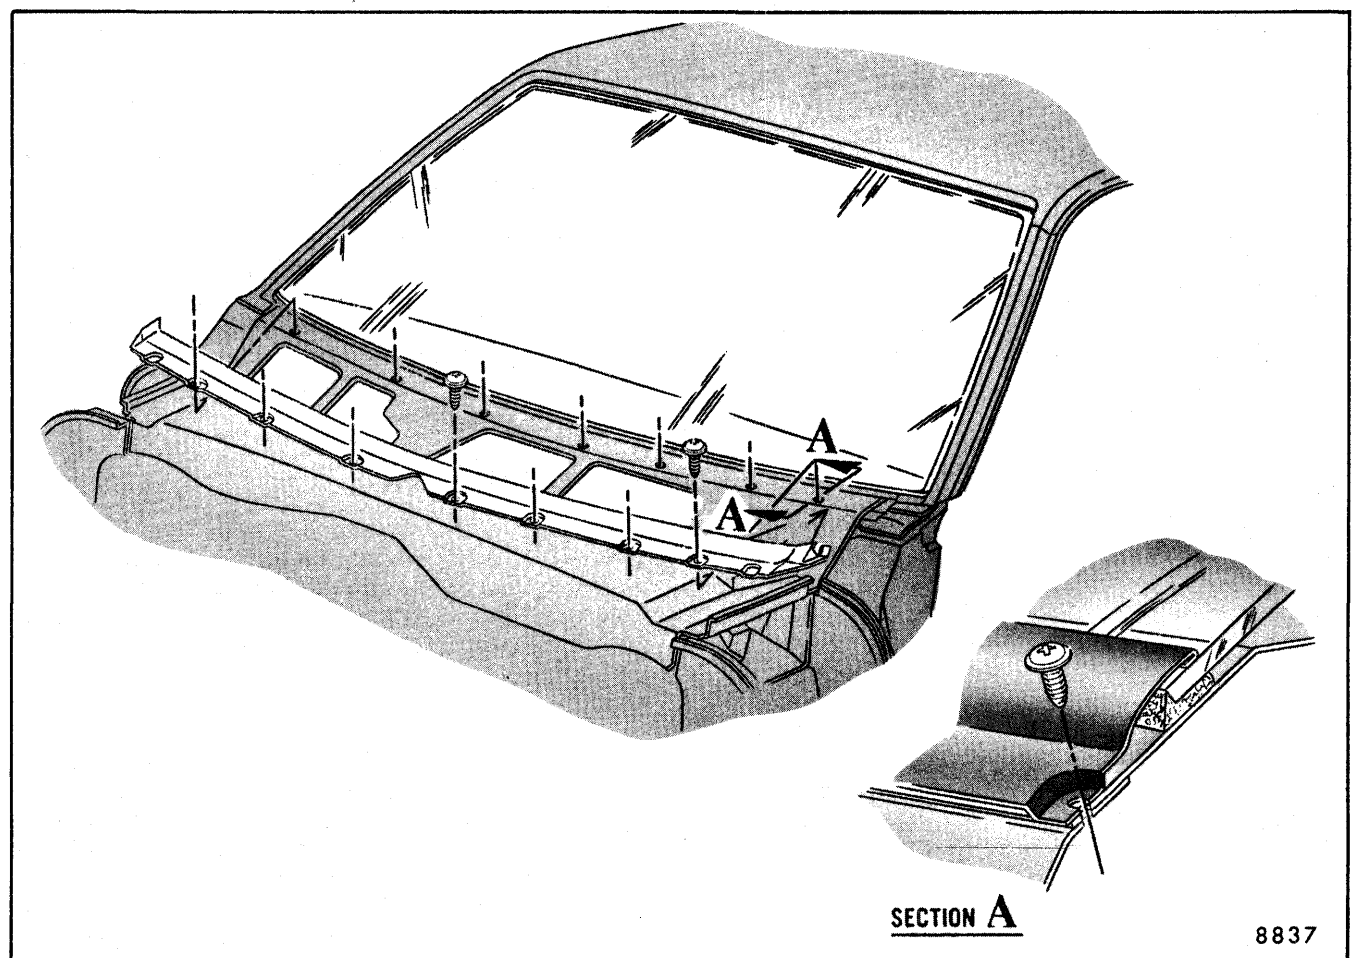

Fig. 11-4-Windshield Lower Molding
3. Remove lower windshield reveal molding by removing attaching screws (Fig. 11-4).